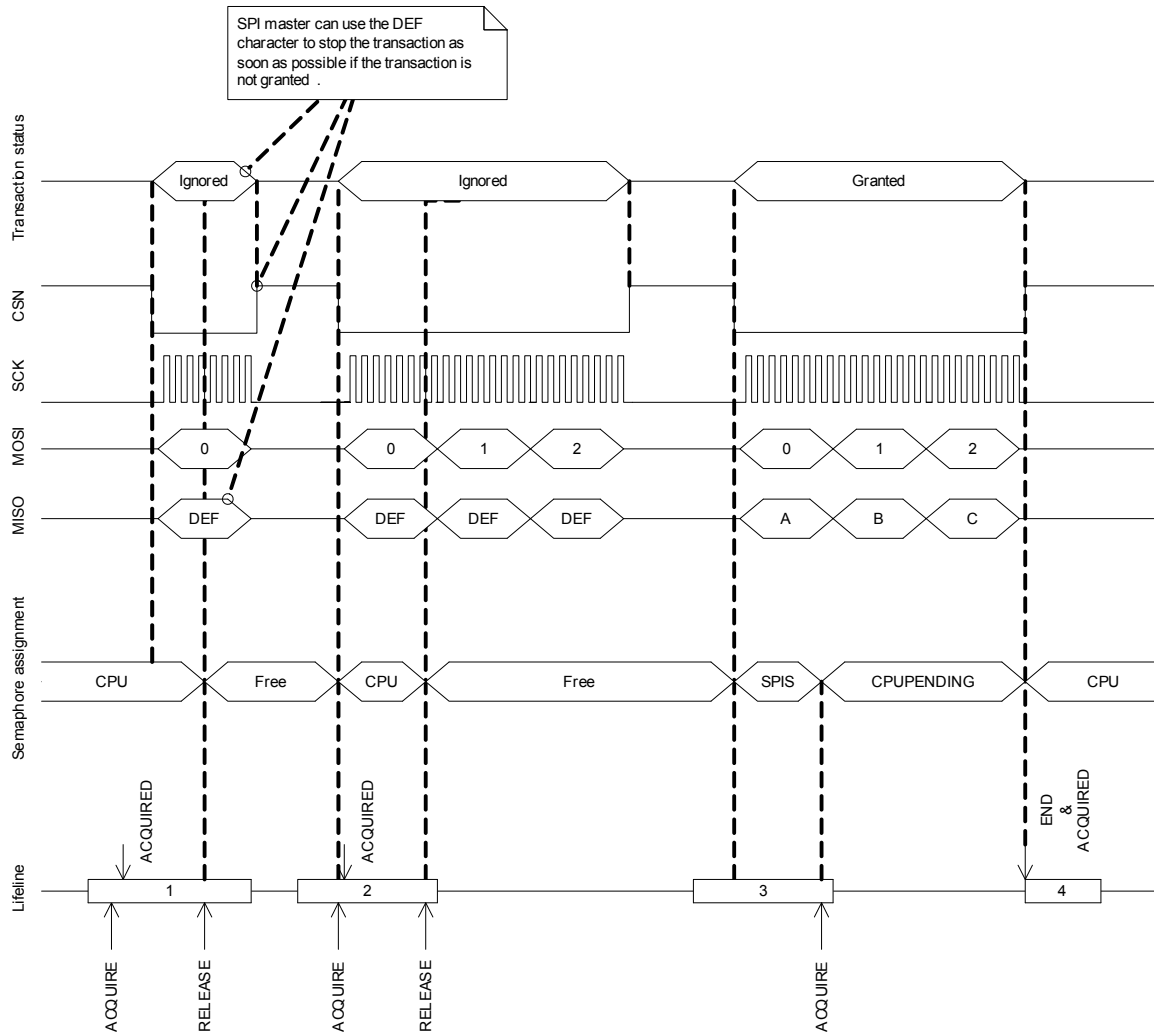

Figure 61 SPI transaction when shortcut between END and ACQUIRE is enabled.
Before the CPU can safely update the RXDPTR and TXDPTR pointers it must first acquire the SPI semaphore. The CPU can acquire the semaphore by triggering the ACQUIRE task and then receiving the ACQUIRED event. When the CPU has updated the RXDPTR and TXDPTR pointers the CPU must release the semaphore before the SPI slave will be able to acquire it. The CPU releases the semaphore by triggering the RELEASE task. This is illustrated in *Figure 61* on page 146. Triggering the RELEASE task when the semaphore is not granted to the CPU will have no effect.
MOSI will be discarded, and the DEF (default) character will be clocked out on the MISO line throughout the whole transaction. This will also be the case even if the semaphore is released by the CPU during the transaction. In case of a race condition where the CPU and the SPI slave try to acquire the semaphore at the same time, as illustrated in lifeline item 2 in **Figure 61** on page 146, the semaphore will be granted to the CPU.